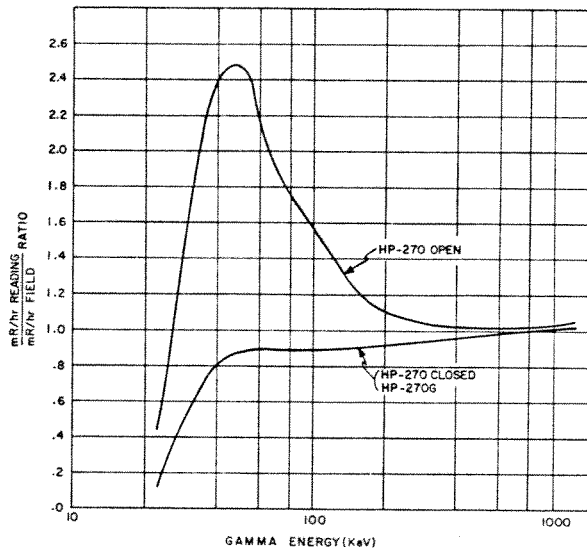

Figure 1-2. Typical Energy Response of HP-270 Hand Probe
(2) Housing: Sliding beta shield and body of ABS plastic. Tin energy compensating shield.
(3) Environmental: Temperature Range -55°C to 75°C, splashproof.
(4) Sensitivity: Approximately 1200 CPM per mR/hr for ¹³⁷Cs.
(5) Cable: Approximately 3 ft. (0.91 m) long.
c. Energy Response: See figures 1-2 and 1-3.